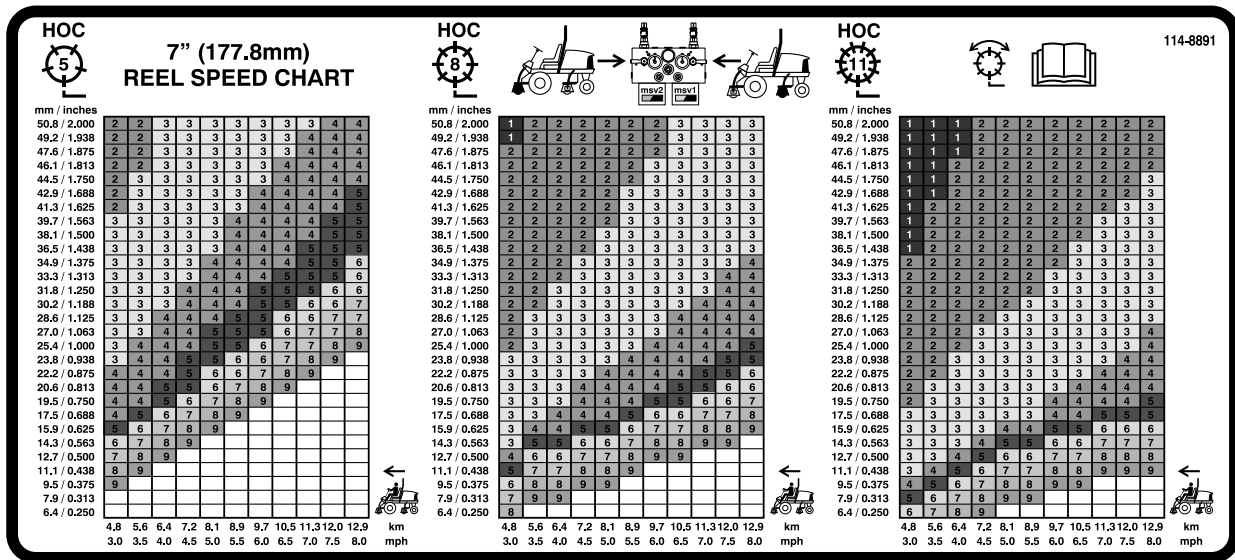
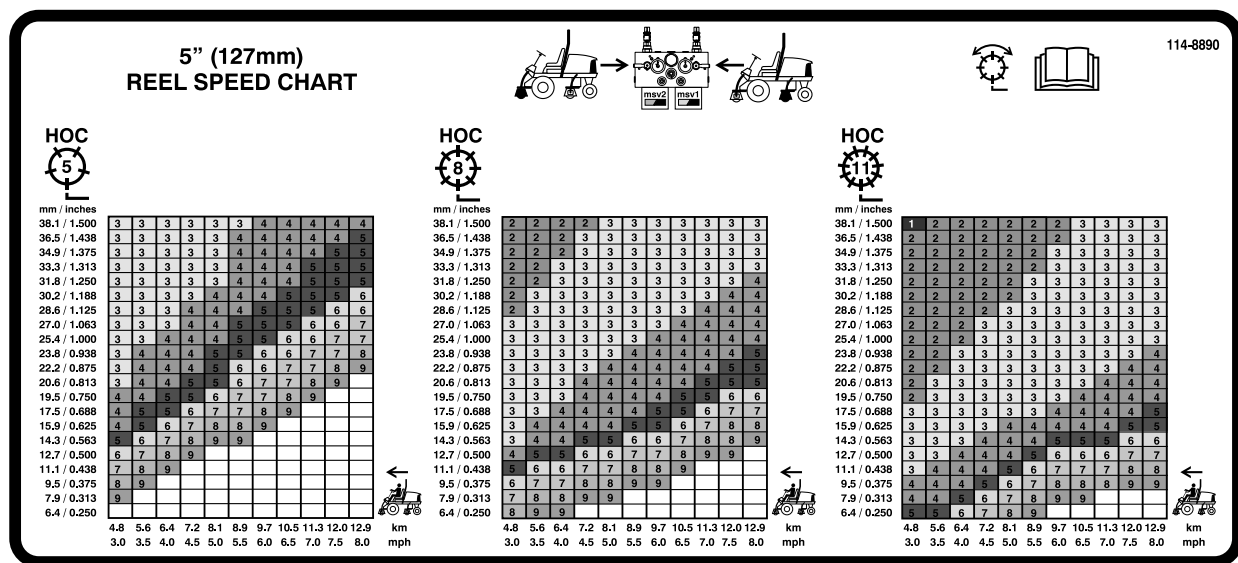

Figure 40
Figure 41
3. Using the appropriate graph on decal 110-0996 (Figure 40) for Reelmaster 5510 & 5610, 7 inch reel cutting units or decal 110-8923 (Figure 41) for Reelmaster 5210 & 5410, 5 inch reel cutting units determine the proper reel speed setting.